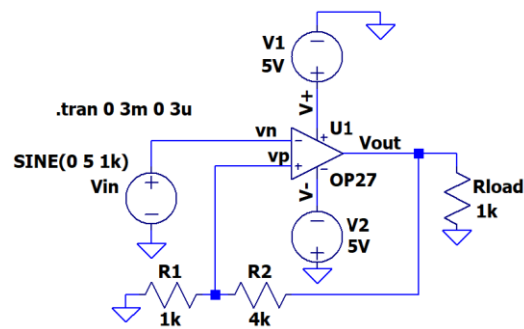

Figure B-3.
- Build the circuit in Figure B-3 using *LTspice*.